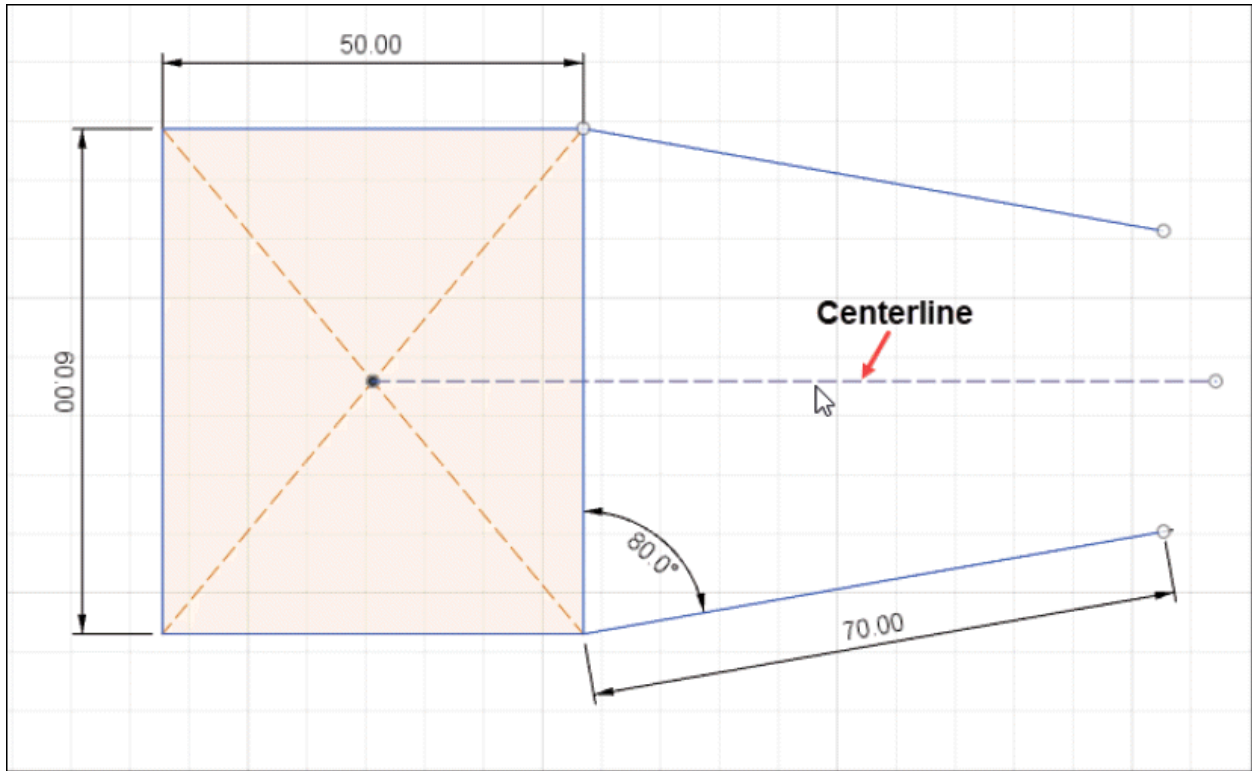

Figure-12. Creating Mirror Copy
- Select **Mirror** tool of **CREATE** drop-down from **Toolbar** and create a mirror copy of recently created line about centerline as shown in Figure-12.